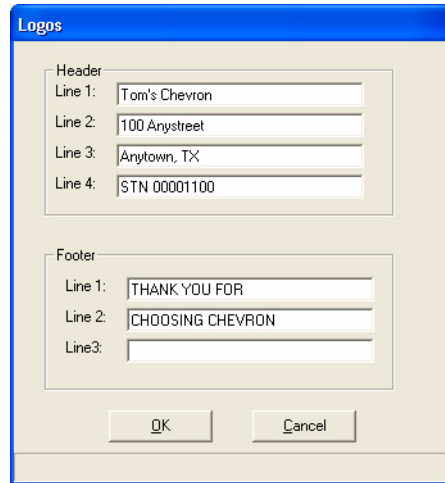

Figure 7-55 Logos Window
1. From the Programming Access window select **System > CAT > Logos**, to open the Logos window. See Figure 7-55.